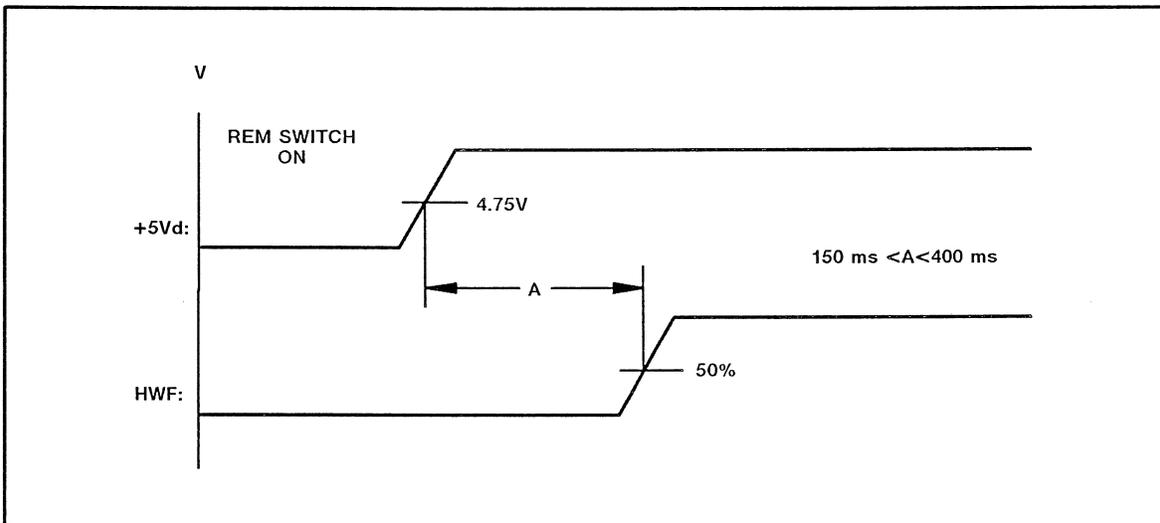

Figure 3-1. HWF delay after power-on.
5. Verify that the delay between the positive-going +5Vd signal (at the +4.75-V level) and the positive-going HWF signal (at the 50% point) is more than 150 ms but less than 400 ms. (See Figure 3-1.) Adjust the Test Oscilloscope horizontal position control to obtain a proper waveform display and use the cursor to measure the time difference.